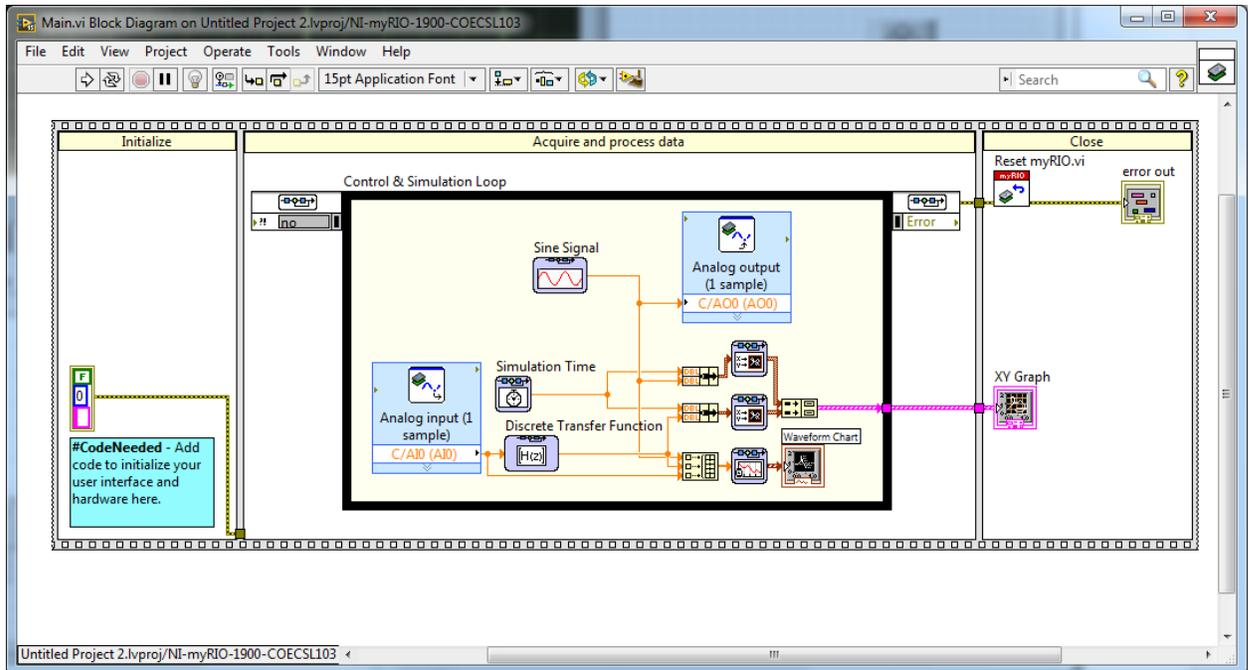

Figure 3 - Block Diagram window for Frequency Response
- Connect the new blocks to match Figure 3.